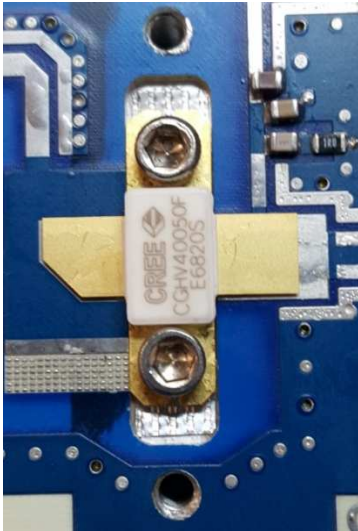
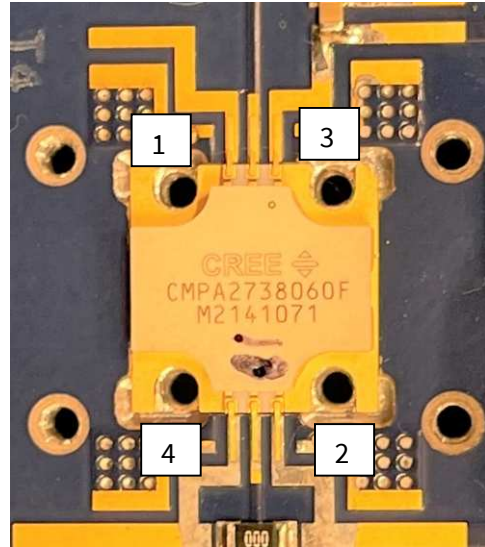

Figure 4.
Figure 5.
6. Place transistor on top of the indium and using a 40 in-oz torque screwdriver carefully screw down the transistor making sure the transistor leads align with the PCB RF traces as shown in Figure 4. For CMPA package type 440219, 440222, 440226, 440225, and 440217 there are 4 screw holes. Loosely screw down the transistor in order from 1-4 as shown in Figure 5. Follow this up by using a torque screwdriver and carefully tighten the screws completely.